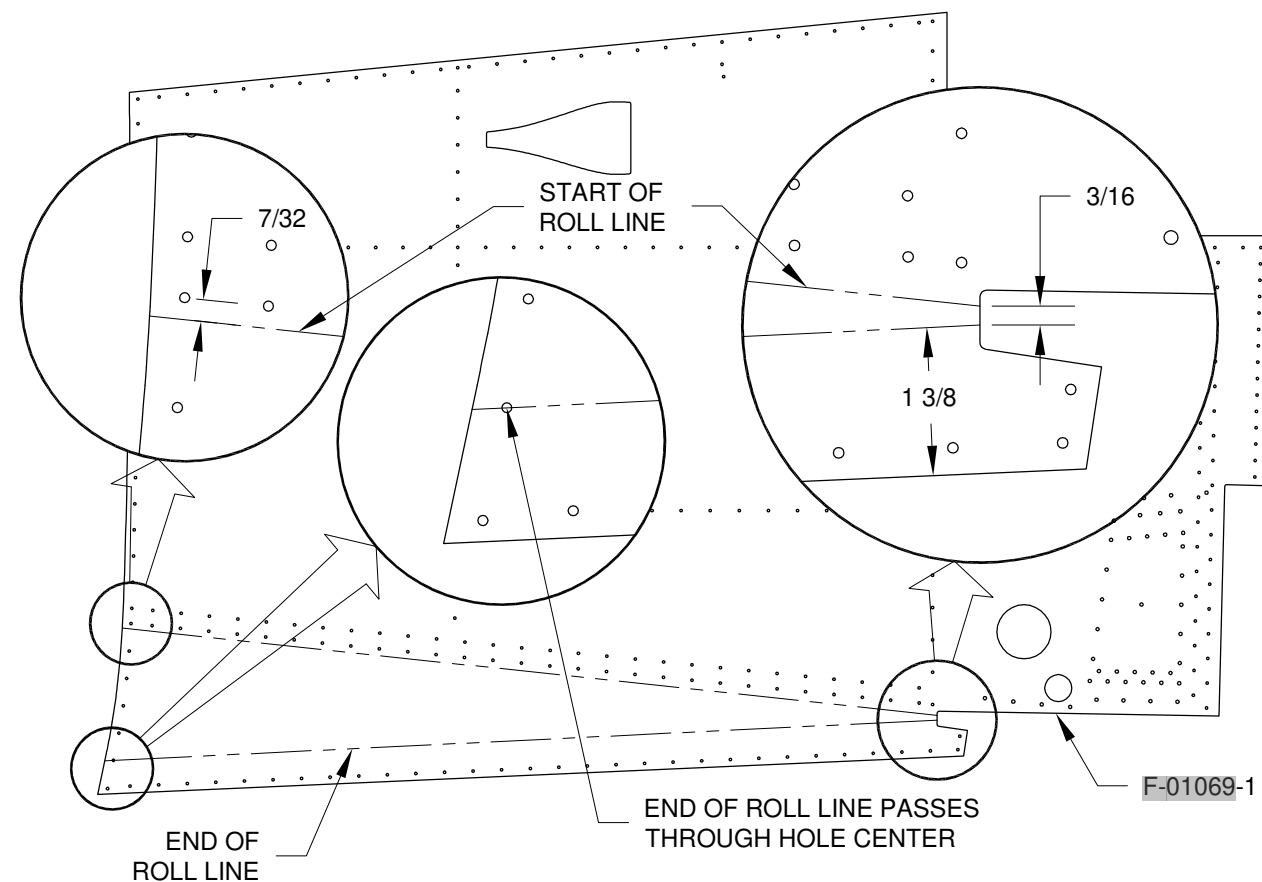
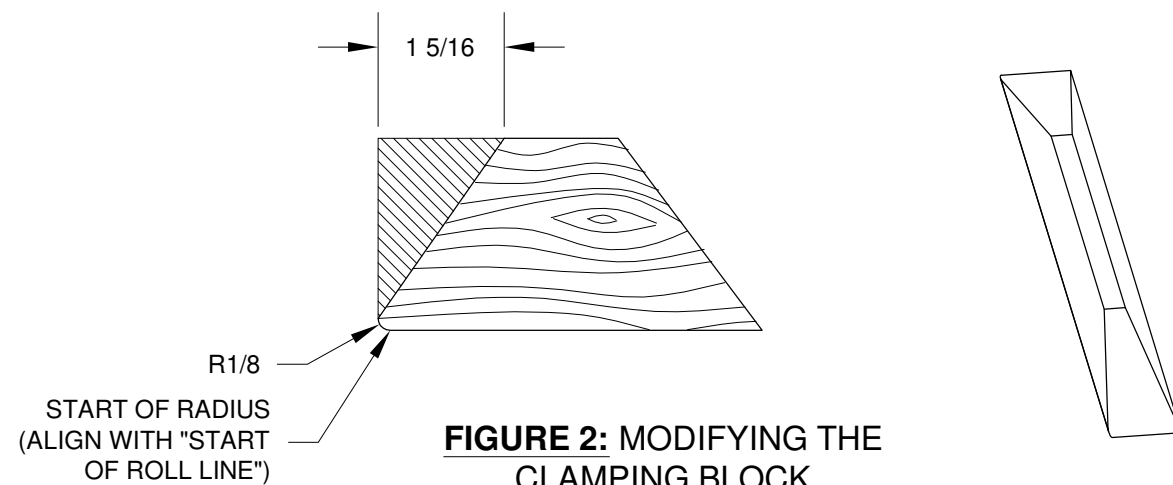

FIGURE 1: MARKING THE CURVE LINES
FIGURE 2: MODIFYING THE CLAMPING BLOCK
Step 1: Remove the vinyl from the inside face of both F-01069-R-1 Fwd Side Skins. Using the dimensions given in Figure 1, draw the "Start of Roll Line" and the "End of Roll Line" on the F-01069-R-1 Fwd Side Skin. Repeat this step for the F-01069-L-1 Fwd Side Skin. The left fwd side skin is a mirror of the right.
Step 2: Modify the Clamping Block to match the dimensions given in Figure 2. Note the radius along the bottom edge of the clamping block. If using a normal 2x4 it is permissible to use the manufactured radius even though it may be slightly larger than 1/8 inch.
Step 3: Clamp the F-01069-R-1 Fwd Side Skin to a table, as shown in Figure 3, using the Clamping Block. Align the "Start of Radius" (see Figure 2) with the "Start of Roll Line" (see Figure 1). Be sure to align the "Start of Radius" not the edge of the block with the "Start of Roll Line"! Double check that you are about to bend the fwd side skin in the correct direction, the outboard face of the skin should be down against the table with the inboard face up.